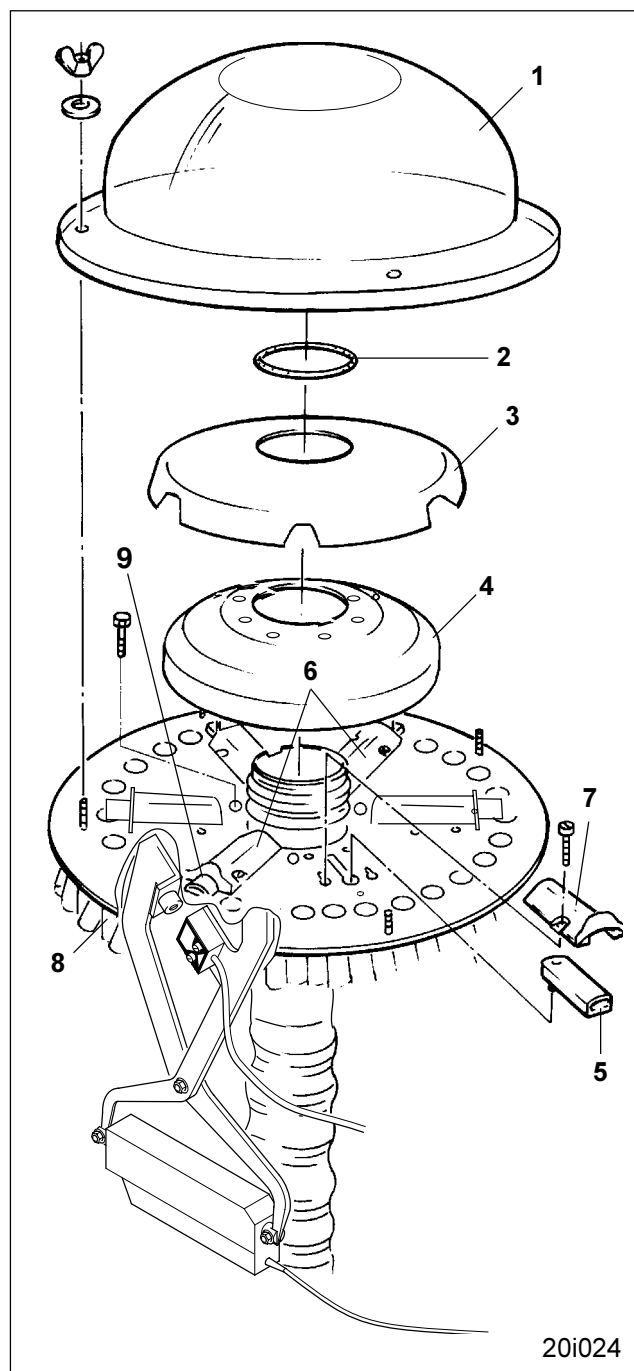

Fig. 26.13
On supply of the seed drill the tramline kit has been set to the wheel marks of your husbandry tractor. However, should it be necessary, e.g. when purchasing a new husbandry tractor, to set your tramline system onto the wheel marks of the new tractor, the seed tubes (Fig. 26.13/8) have to be interchanged for one another on the distributor head. Thereby it should be noted that the tramlining coulter are fixed to such outlets which can be shut by the shutter slides (Fig. 26.13/9).
- Outer distributor hood (Fig. 26.13/1)
- O-Ring (Fig. 26.13/2)
- Inner distributor hood (Fig. 26.13/3) and
- Foam material insert (Fig. 26.13/4).
It is possible to fit up to 6 shutter slides. Always two shutter slides (Fig. 26.13/6) should be fitted on the base plate opposing each other. For mounting or dismounting the shutter slide (Fig. 26.13/5) the shutter slide funnel (Fig. 26.13/7) must be removed.